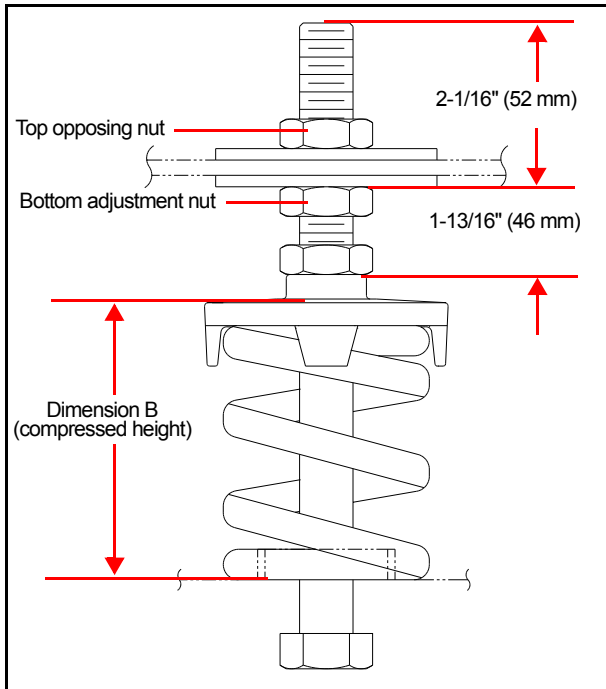

Figure 3-9 Dimension to Measure When Leveling
6. Set the initial spring height per Figure 3-9 and Table 3-D.
- Set the bottom adjustment nut on the hex bolts to achieve 1 13/16" (46 mm) for both ALC and AWC (Figure 3-9).
- Remove the top opposing nuts and top washer from the hex bolts and place the shaker onto the springs (Figure 3-9).
- Adjust the bottom adjusting nut until the springs on opposite sides are within 1/4" (6 mm) of being compressed equally. Refer to Dimension B in Figure 3-9 and Table 3-C for the correct compression height for the ALC or AWC springs.